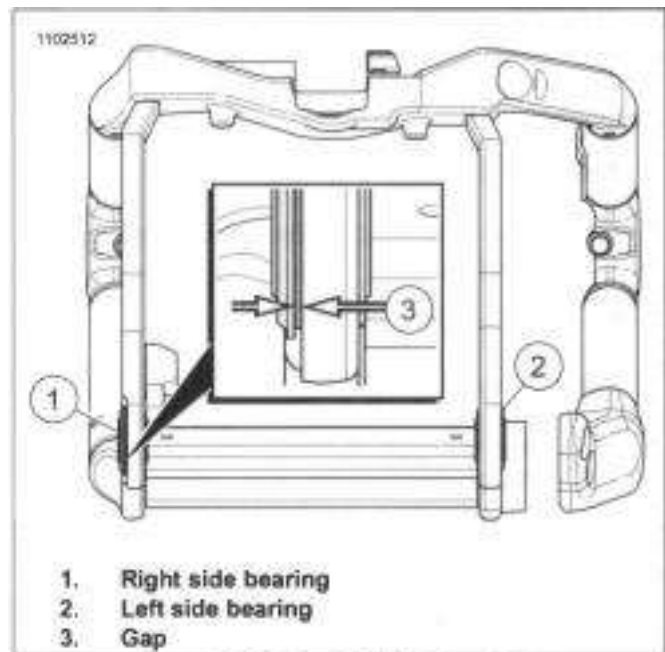

Figure 3-88. Rear Fork Bearing Gap
- e. See Figure 3-88. Press right bearing into fork bearing bore leaving a gap.